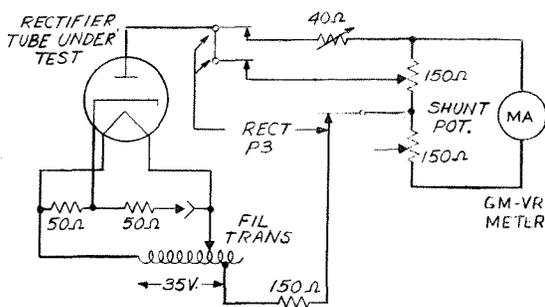

Fig. 3 - Standard Rectifier Test Circuit
2.24 Thermionic Rectifier Test Circuit: When testing a rectifier-type tube the set is arranged as shown in Fig. 3. Each anode is tested separately. The No. 83 tube has no function in this circuit arrangement, the rectifier plate circuit under test being substituted for one side of it. A current limiting resistance of 150 ohms is in series with the tube under test and the GM-VR METER reads directly proportionally to the rectified ac current as indicated on the meter scale.